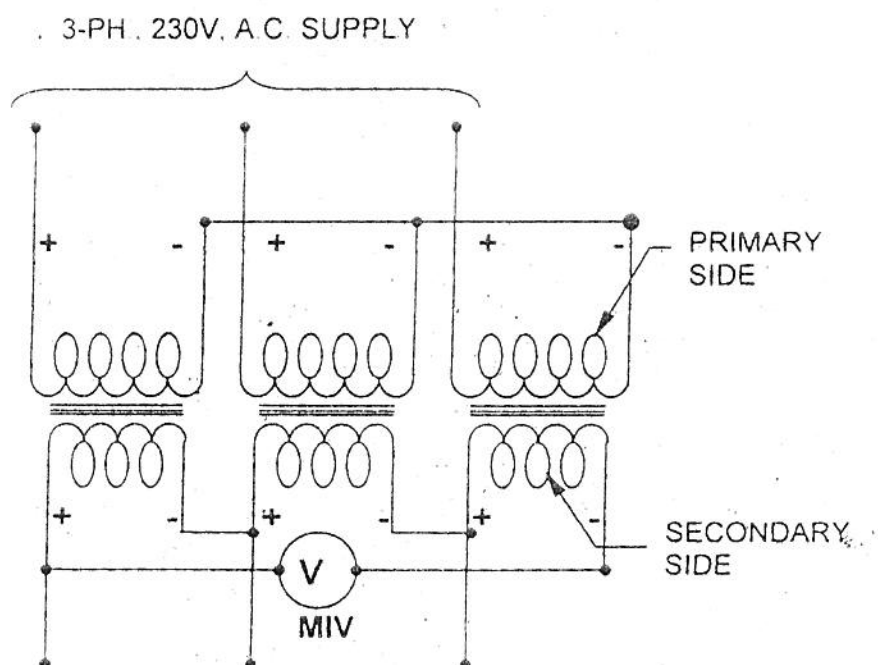

FIGURE-4
2. Repeat the same procedure connecting the three transformers in star/star, star/delta and delta/delta one by one and note the readings in the **DATA SHEET**. In case of star/delta and delta/delta connections, before closing the delta of the secondary windings, measure the voltage between the closing point 'a' and 'b' (figure-4) of the secondary windings to be sure that the voltage is zero. (Why?)